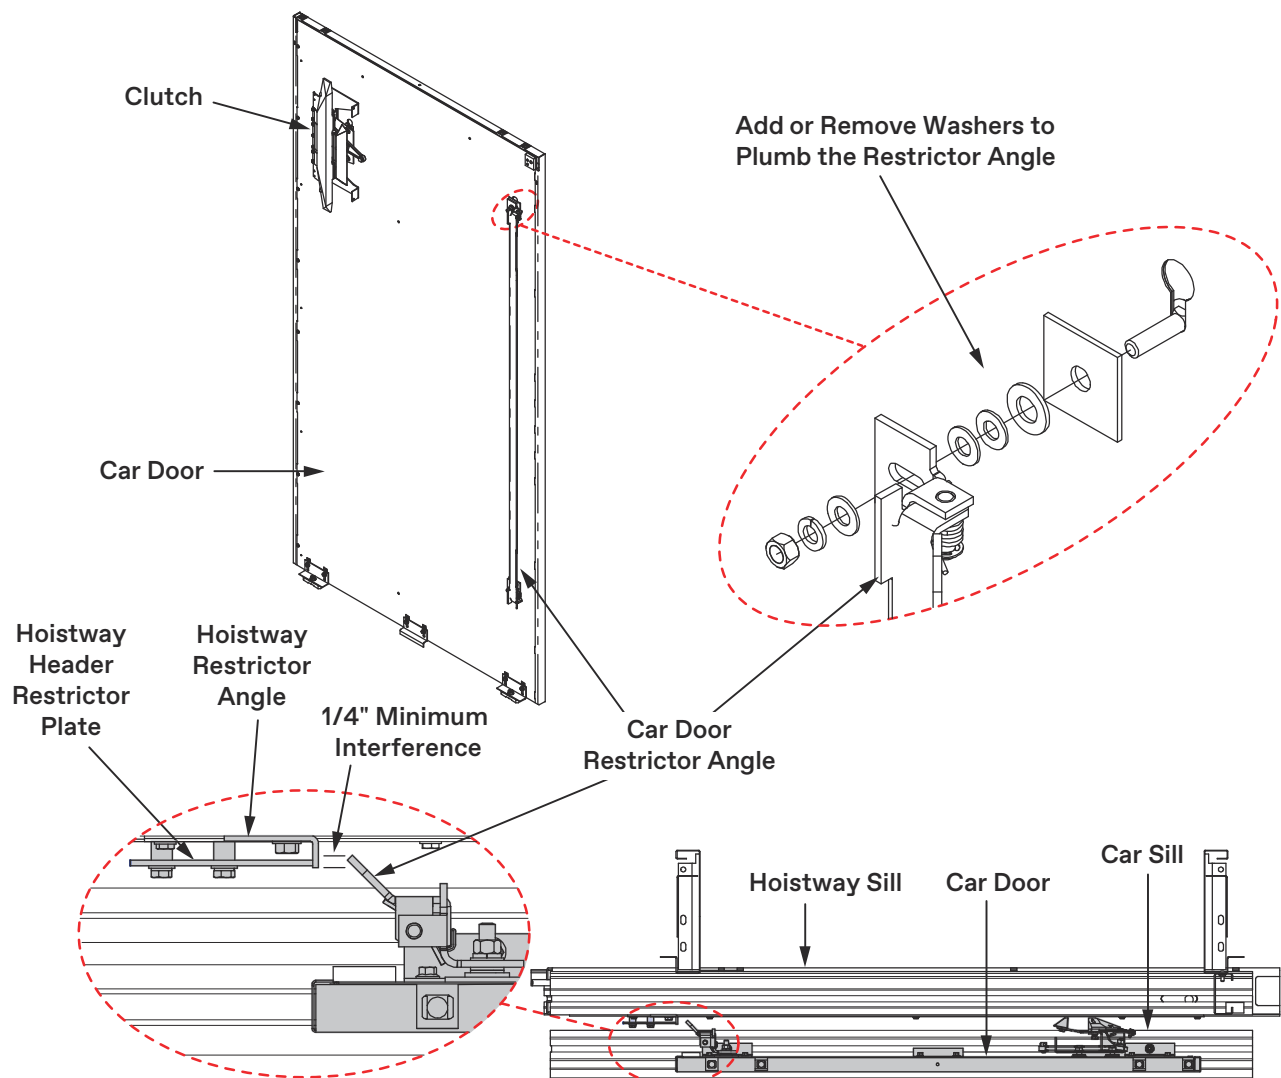

Figure 53 - Install the Car Door Restrictor Angle
2. Use washers to adjust the car door restrictor so that it is plumb and a $\frac{1}{4}$ " minimum interference when the car door restrictor engages the hoistway restrictor angle. See Figure 53.